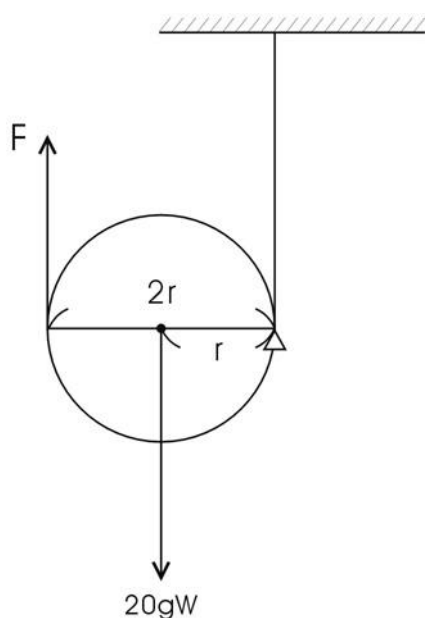

Figure 4
2. **Pulley:** As shown in **Figure 4**, the effort is at the edge of axle and the resistance is at the center of wheel. When F pulls, the edge of wheel (triangle part) is the fulcrum. The effort arm is the diameter and the resistance arm is the radius. In other words, the effort arm is twice longer than the resistance arm. A balanced torque only requires the effort to be half the resistance. Thus, if we want to lift a $20g$ weight, without considering the weight of pulley, we at least need $10g$ force.